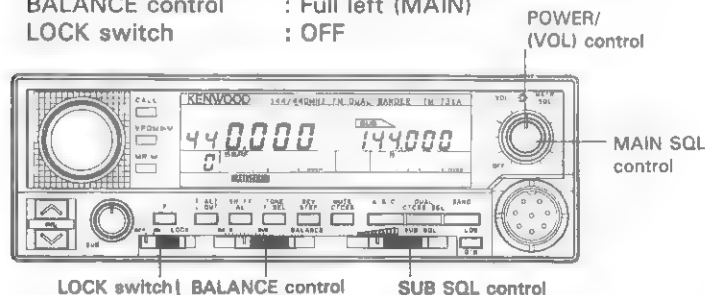

Fig. 1
2. Turn ON the DC power supply and then turn the transceiver's power switch ON. The display panel will indicate as shown in Fig. 1. Additionally some control and key lights will turn on.
If the display is not as shown Fig. 1 reset the microprocessor using the procedure give in Microprocessor memory Initialization Page 23.